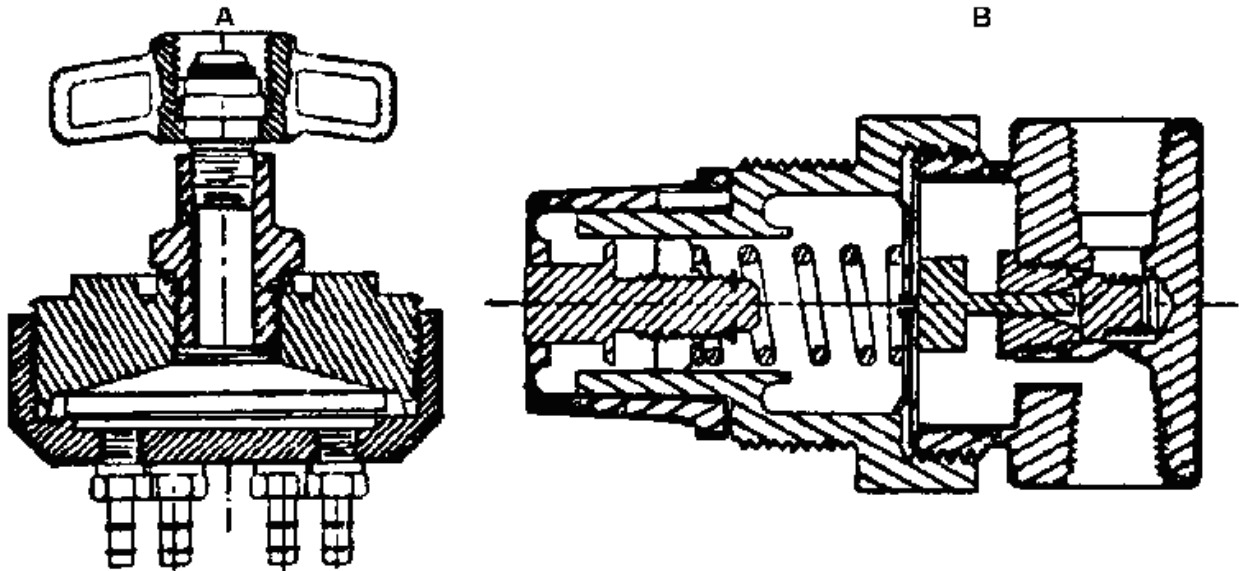

Figure 1-3. Inlet manifold (A) and flow-control regulator (B).
(1) Inlet manifold. The inlet manifold, shown at A in figure 1-3, contains a five micron sintered bronze filter and has six outlet ports which direct gas mixtures to the functional components of the ventilator. The pressure gauge indicates source-gas pressure to the ventilator from one outlet of the inlet manifold. The green wedge on the dial indicates the mandatory pressure range of 45 to 55psi.
(2) Flow-control regulator. A second outlet from the inlet manifold is connected to the flow-control regulator shown in figure 1-3 "B." One outlet from the regulator is connected to a gauge calibrated in liters-per-minute (lpm) flow. The other regulator outlet delivers the gas mixture to a tee fitting.